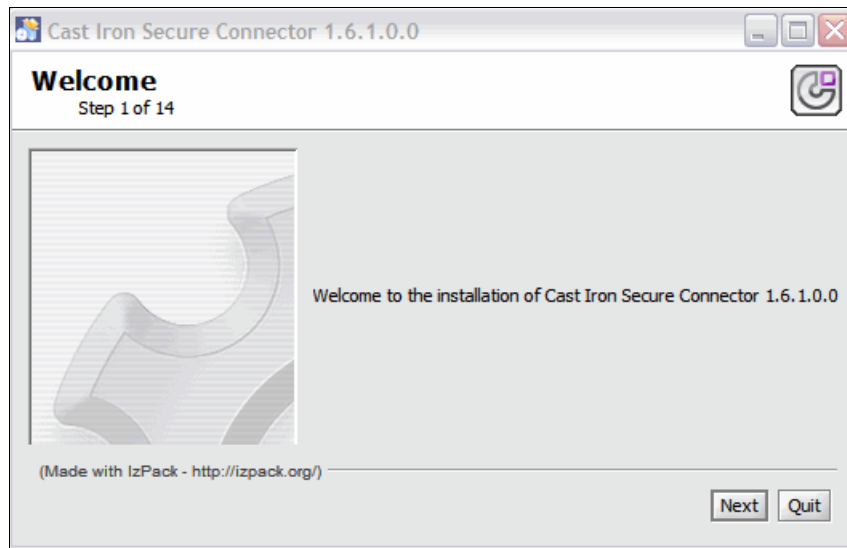

Figure 2-37 Cast Iron Secure Connector installation, Welcome panel
4. The Welcome panel displays as shown in Figure 2-37. Click **Next** to continue.